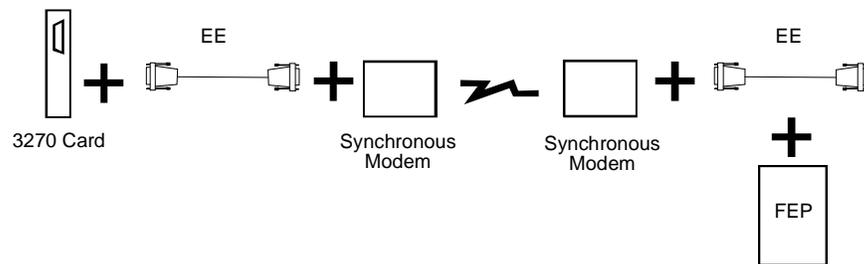
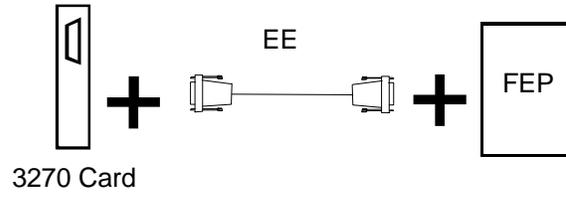

Figure B-6. 3270 Interface Connection Using Synchronous Modems
Figure B-8. 3270 Interface Connection Using a Direct Connection to the FEP
Figure B-6 through Figure B-8 show examples of external connectivity and cabling for a 3270 connection to the FEP. Note the following about these connections:
- The synchronous modem (Figure B-6) must provide clocking on pins 15 and 17.
- The example in Figure B-8 assumes that the FEP provides the closing on pins 15 and 17 to transmit and receive. This type of connection is rarely used.